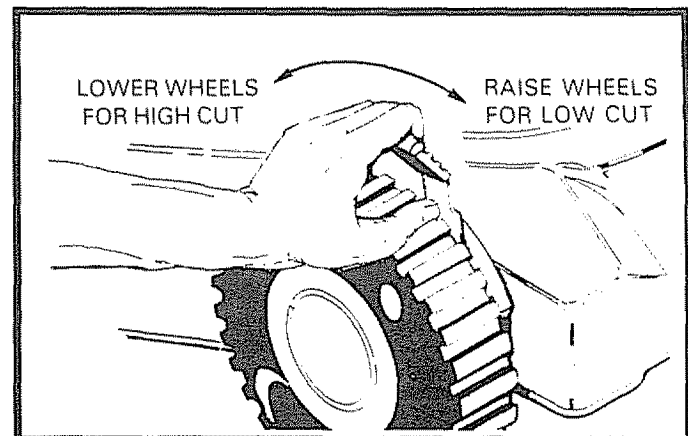

FIG. 9
- To change cutting height, squeeze adjuster lever toward wheel. Move wheel up or down to suit your requirements. Be sure all wheels are in the same setting (See Fig. 9).